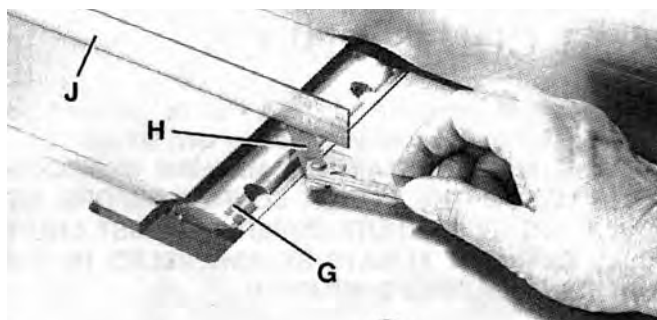

FIGURE 51
10. Carefully rotate the cutterhead (G) Fig. 51, until the round portion of the cutterhead is on top as shown.
11. Place a 0.060" feeler gage (H) Fig. 51, on the cutterhead and using a straight edge (J) on the rear table adjust the height of the rear table until it is 0.060" above the cutting head diameter, as shown.